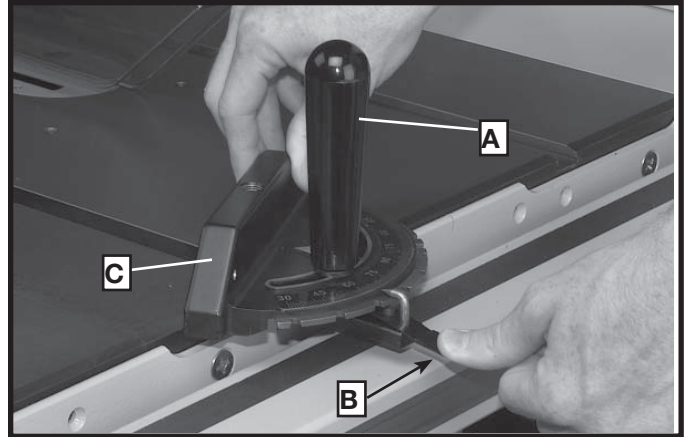

Fig. 63
To rotate the miter gauge, loosen lock knob (A) Fig. 63, push the thumb lever (B) down and move the body of the miter gage (C) to the desired angle.